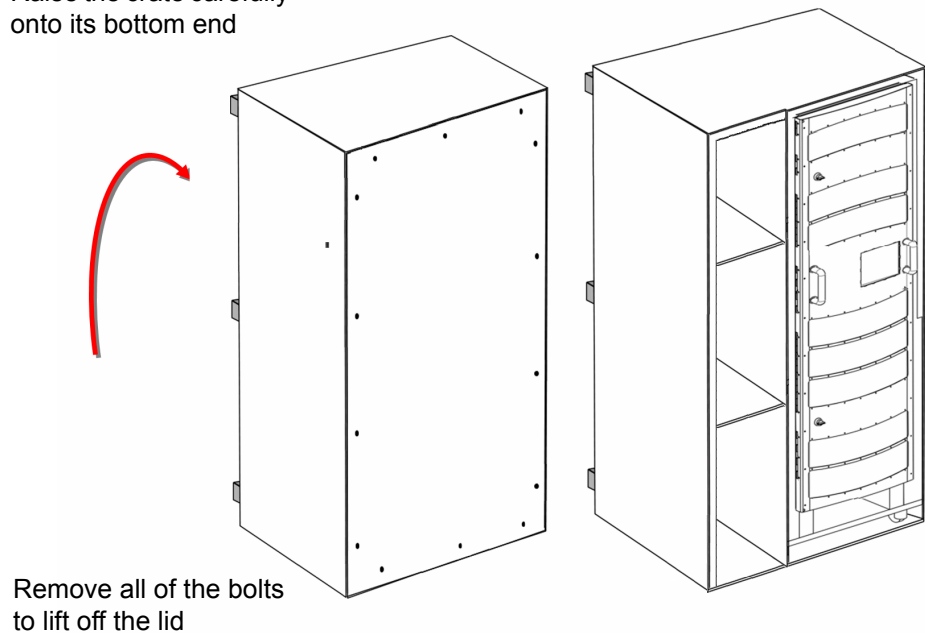

**Fig 5. Unpacking**
The Sirius 850, power supply shelves and cables are supplied in a single wooden crate. The crate is delivered in the horizontal position with the crate lid facing upwards. The top end of the crate has two rings that can be used for handling the crate, see Fig 5.
1. With the crate in its horizontal position remove all of the bolts and lift off the lid, see Fig 5. Keep the bolts they will be needed again.
5. Carefully raise the crate from the top end so that is in the upright position, see Fig 6. Use a forklift and a strap attached to the handling rings on the top of the crate, if possible, (see Fig 5.) to raise the crate into an upright position.